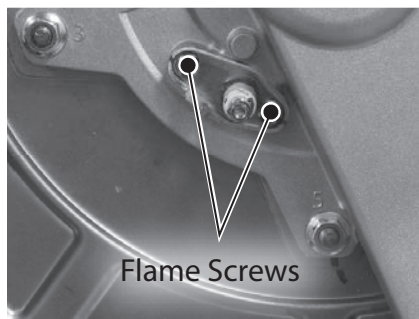

Figure 74 - Remove flame sensor screws
- 6 Use a Phillips screwdriver to remove the two (2) screws securing flame sensor to the burner assembly as shown in Figure 74. Place screws aside in a safe place for reinstallation.